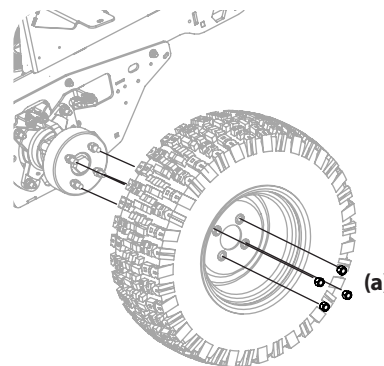

Figure 46
1. Remove the four lug nuts (a) to remove the tire. See Figure 46.
2. Reinstall the tire using the four lug nuts. See Figure 46. Torque the lug nuts (a) to 65-70 ft-lbs (88-95 N-m).